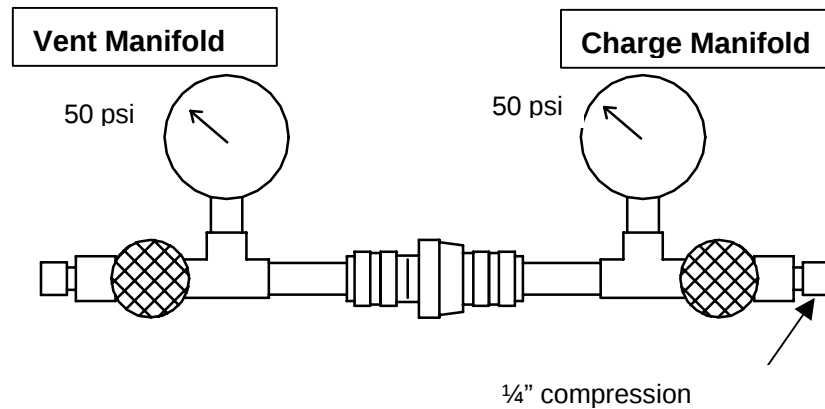

Figure 8: Vent and Charge Manifolds
5.1. Connect the Vent Manifold (adapter with male aeroquip) to the Charge Manifold (adapter with female aeroquip) as shown in Figure 8. Verify that both manifold valves are closed.